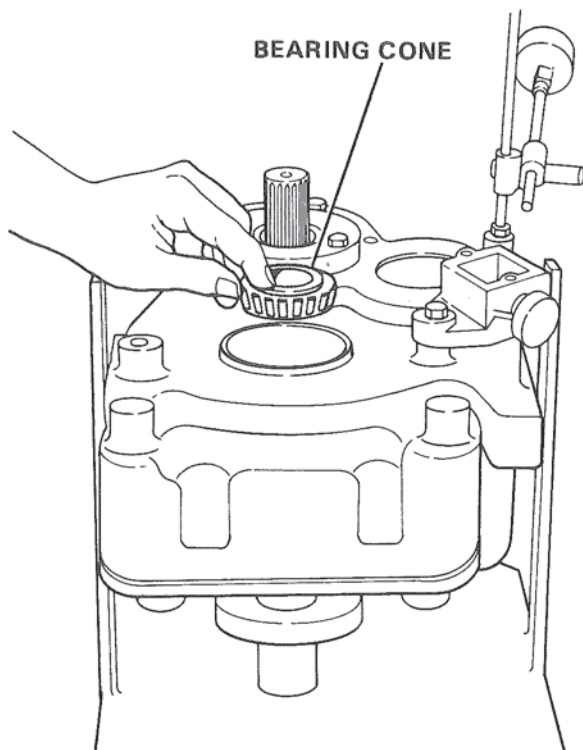

Figure 43. Installing Bearing Cone.
3. Place a support (steel or wood block) under the flange with the marine gear input end up. Figure 43.